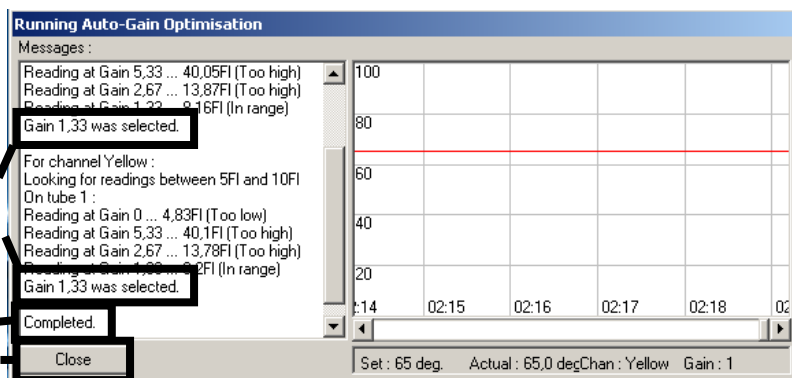

Figure 4. Gain optimization completed. Note gain values (in this case, 1.33 for both fluorescence channels).
- Wait until **Completed** appears in the **Running Auto-Gain Optimisation** window (Figure 4). Write down the selected gain values for both channels, and then click **Close** (Figure 4).